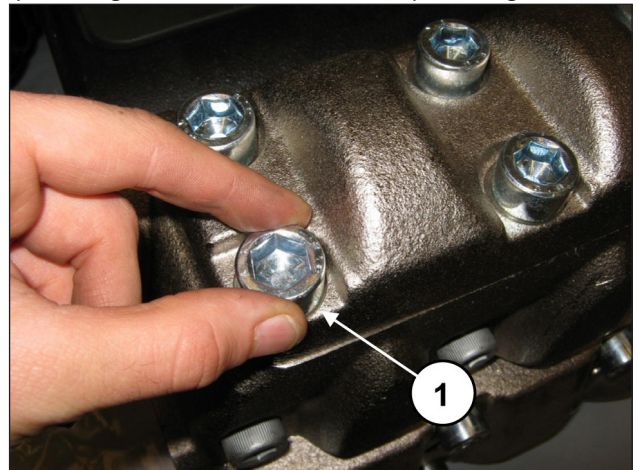
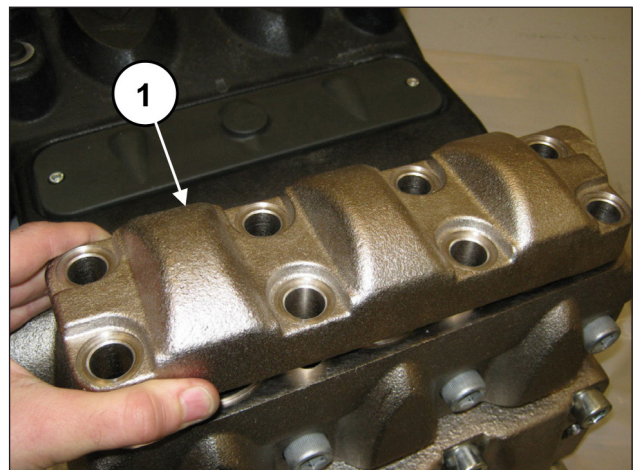

Fig. 133
Fig. 134
Unscrew the 8 M16x45 screws of the outlet valve cover (pos. ①, Fig. 133) and remove the cover (pos. ①, Fig. 134).